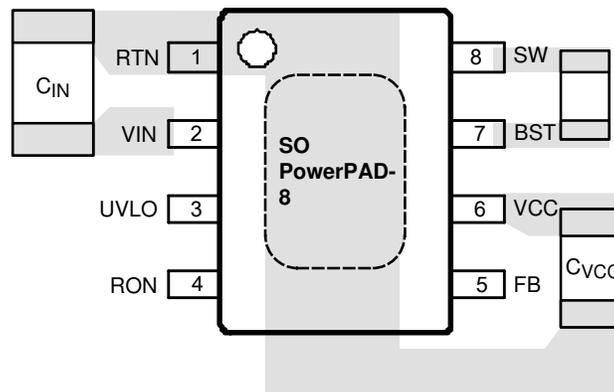

图 10-1. Placement of Bypass Capacitors
1.  $C_{IN}$ : The loop consisting of input capacitor ( $C_{IN}$ ),  $V_{IN}$  pin, and RTN pin carries switching currents. Therefore, the input capacitor should be placed close to the IC, directly across  $V_{IN}$  and RTN pins and the connections to these two pins should be direct to minimize the loop area. In general it is not possible to accommodate all of input capacitance near the IC. A good practice is to use a 0.1- $\mu$ F or 0.47- $\mu$ F capacitor directly across the  $V_{IN}$  and RTN pins close to the IC, and the remaining bulk capacitor as close as possible (see 图 10-1).
2.  $C_{VCC}$  and  $C_{BST}$ : The  $V_{CC}$  and bootstrap (BST) bypass capacitors supply switching currents to the high and low side gate drivers. These two capacitors should also be placed as close to the IC as possible, and the connecting trace length and loop area should be minimized (see 图 10-1).